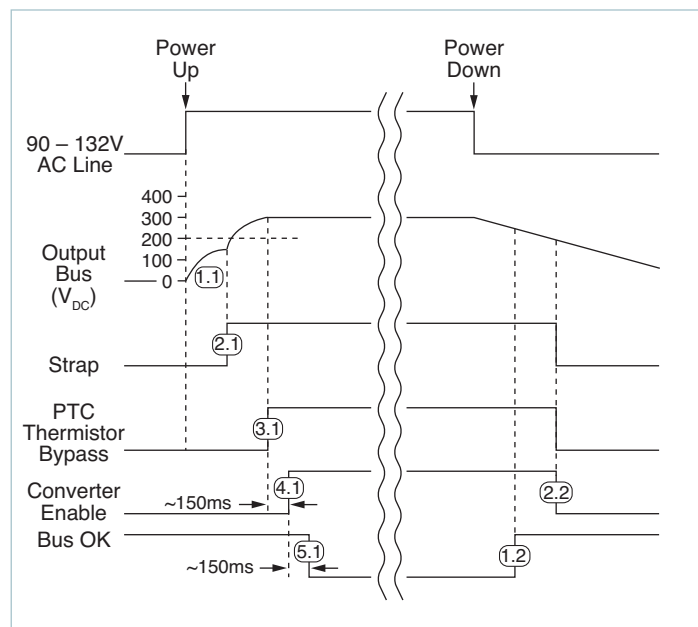

Figure 9 — Timing diagram: power up/down sequence
### Power-Up Sequence (see Figure 9):
**Power-Down Sequence:** (see Figure 9). When input power is turned off or fails, the following sequence occurs as the bus voltage decays: